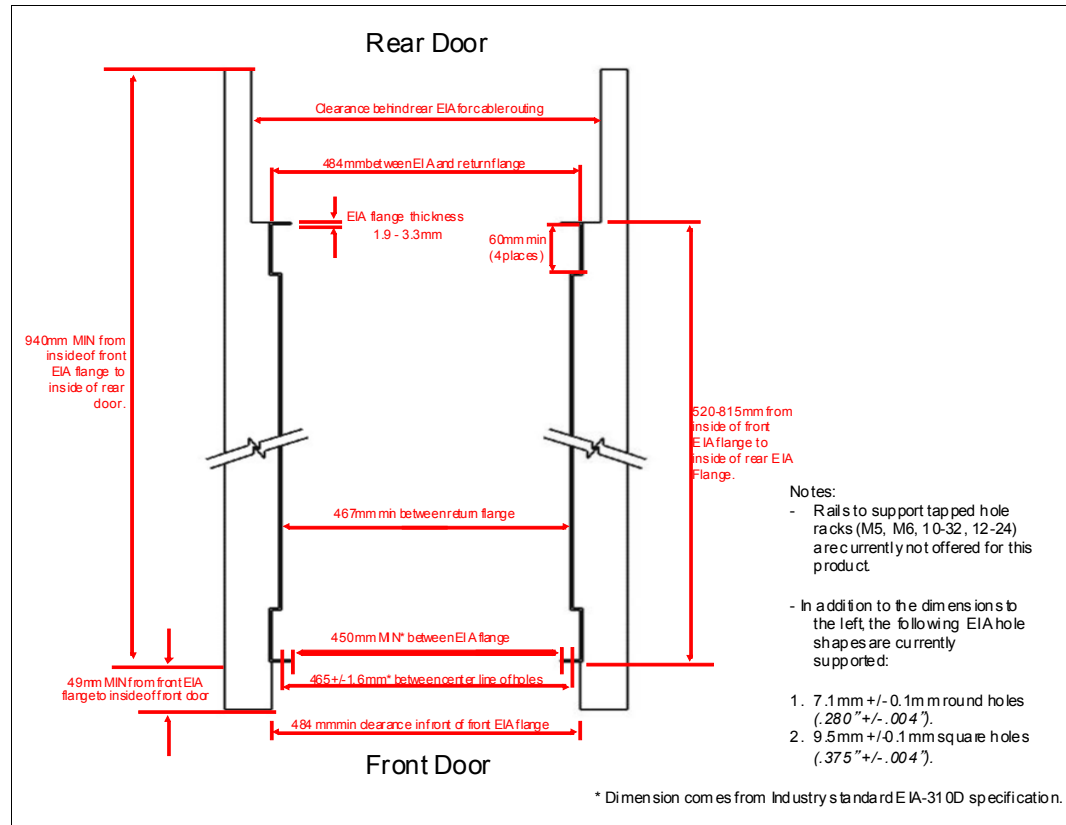

Figure 1-12 Top view of rack specification dimensions (not specific to IBM)
- The front rack opening must be 451 mm wide ± 0.75 mm (17.75 in. ± 0.03 in.), and the rail-mounting holes must be 465 mm ± 0.8 mm (18.3 in. ± 0.03 in.) apart on-center (horizontal width between the vertical columns of holes on the two front-mounting flanges and on the two rear-mounting flanges). Figure 1-12 is a top view showing the specification dimensions.